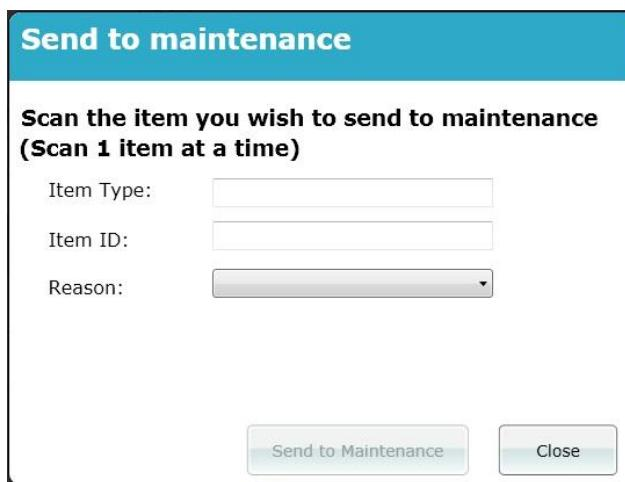

Figure 14
3.4.1. Maintenance button: if a defected tool is detected before inserting into the set during the routine examination of items, then the item should be registered as defected. This is done by touching the “maintenance button” and scanning the item again in the Tool Pack Antenna. See figure 14 to view the maintenance pop up.